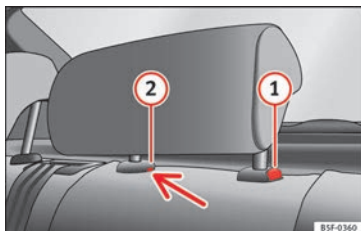

Fig. 151 Rear centre head restraint: release point.
- To set the head restraint lower down, press the ① » » » Fig. 151 button and move it downwards.